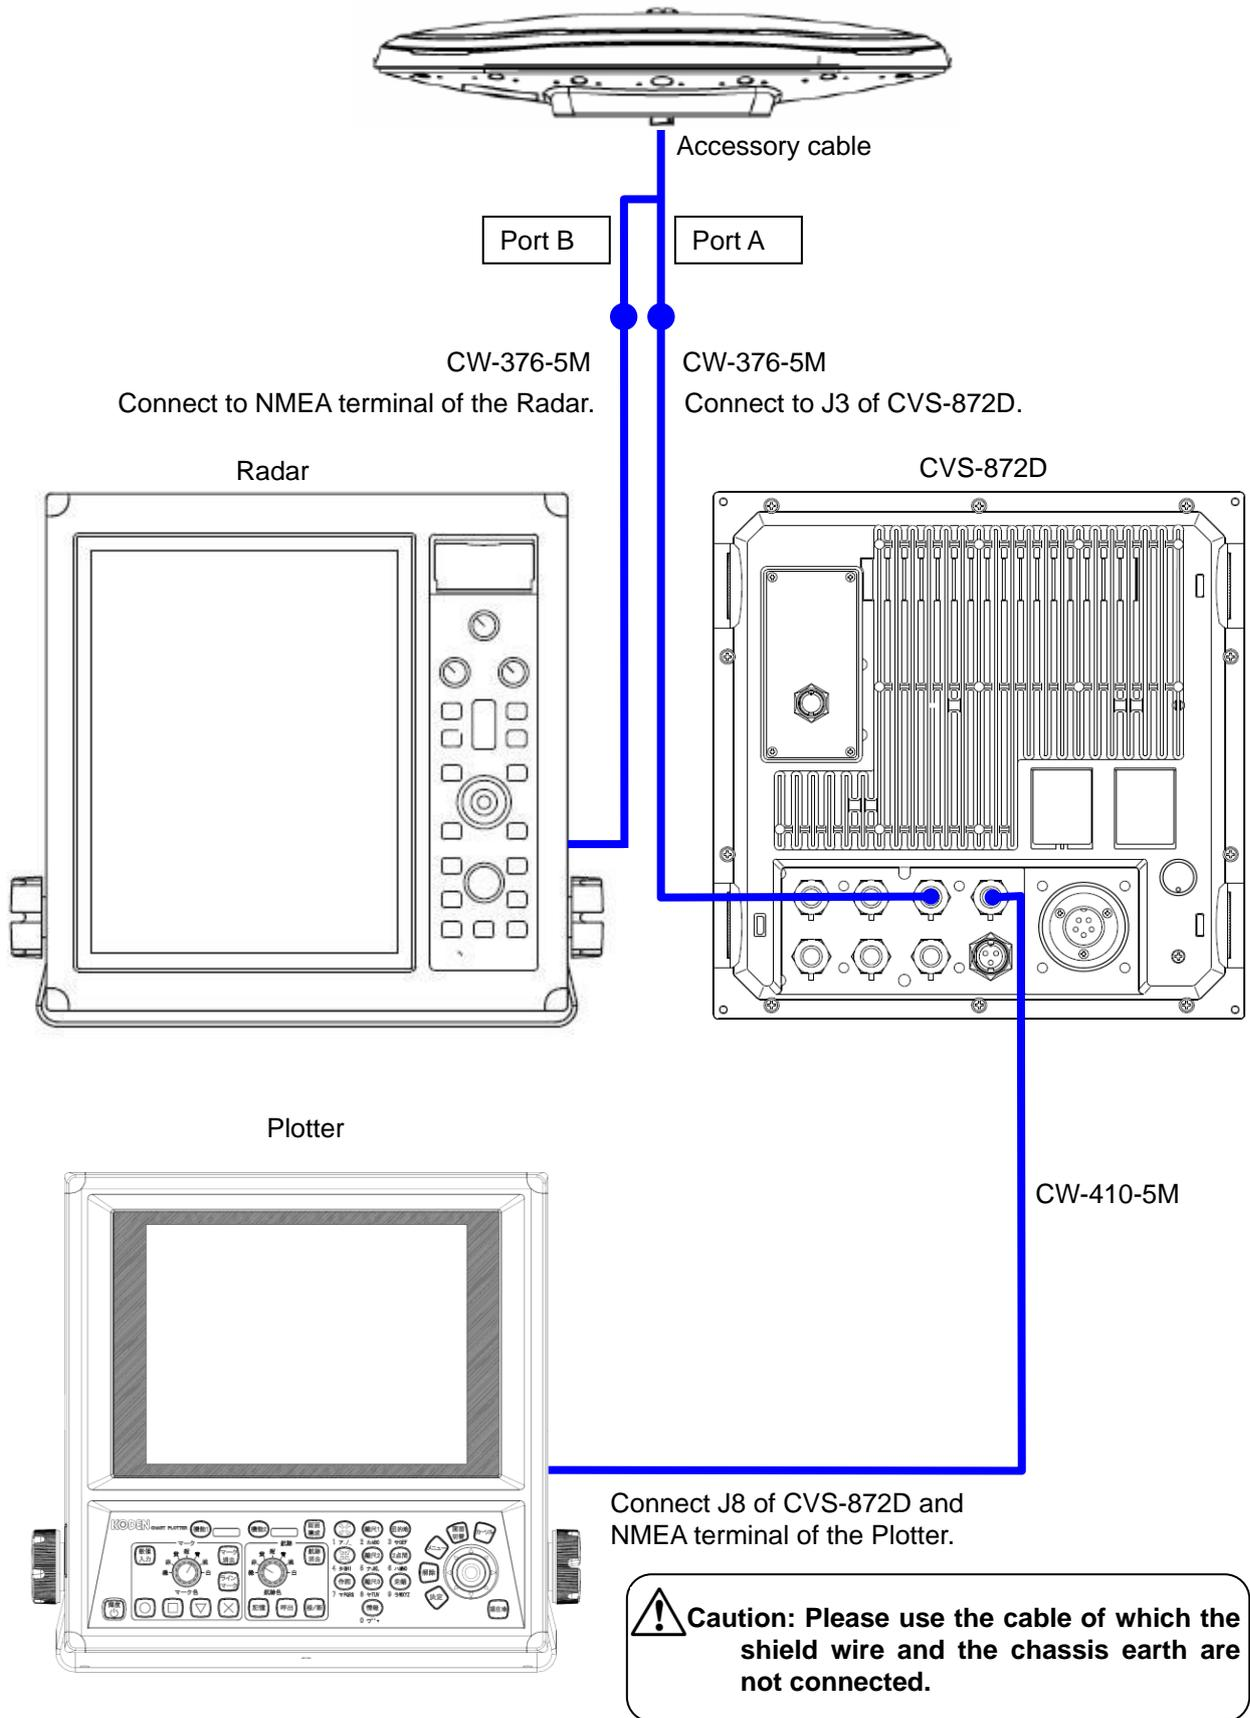
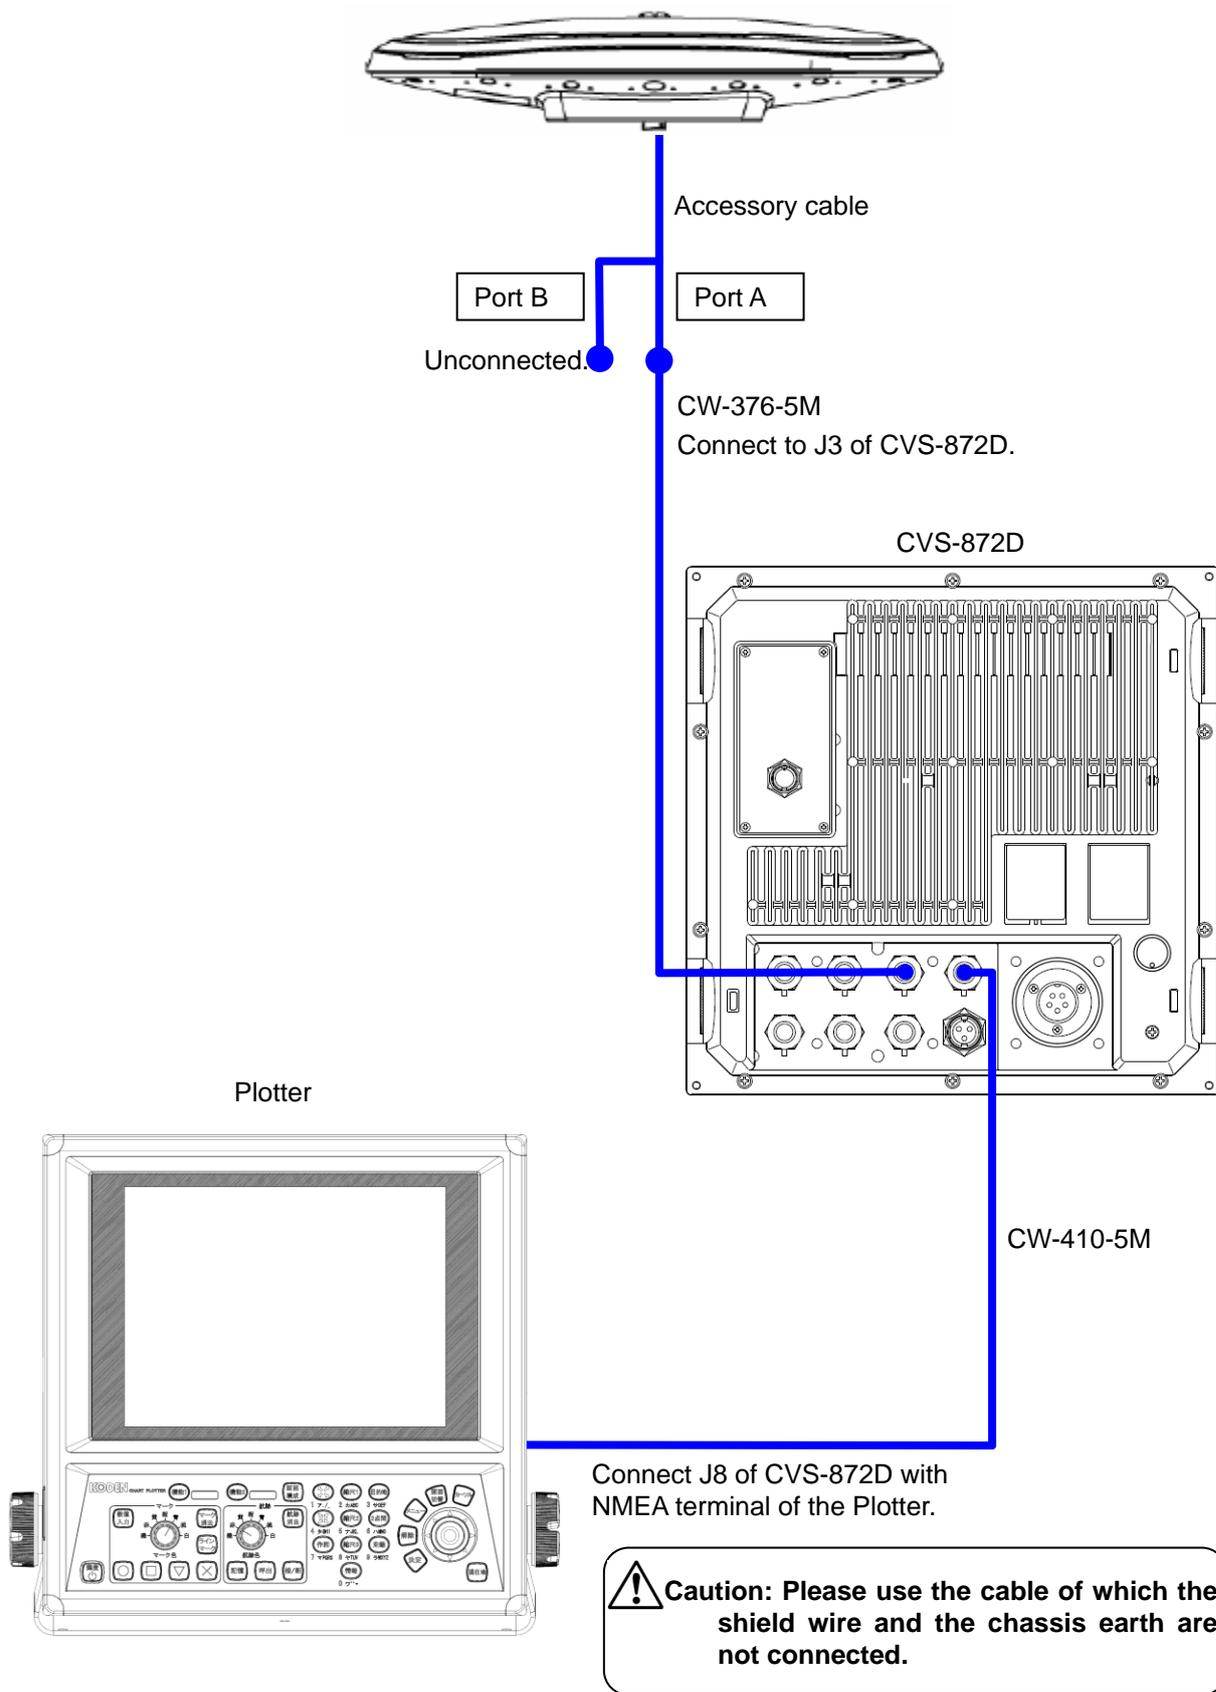

Fig. 1.66 The general connection chart 7
Fig. 1.68 The general connection chart 9
- 3) Connect CW-376-5M to NMEA terminal of Radar after soldering with Port C when connecting with Radar as GPS compass. Refer to “**Fig. 1.66 The general connection chart 7**”.
In the other cases, connection with Port B is not necessary. Refer to “**Fig. 1.68 The general connection chart 9**”.
- 4) Refer to “**Fig. 1.66 The general connection chart 7 to Fig. 1.68 The general connection chart 9**”, connect other equipment to communicate NMEA with the terminal J8 of CVS-872D.